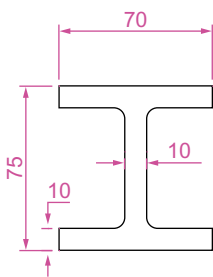

Fig. 12.37 Example Sweep – the outline to be swept
1. Construct the pline outline (Fig. 12.37) in the **3D Navigation/Top** view.